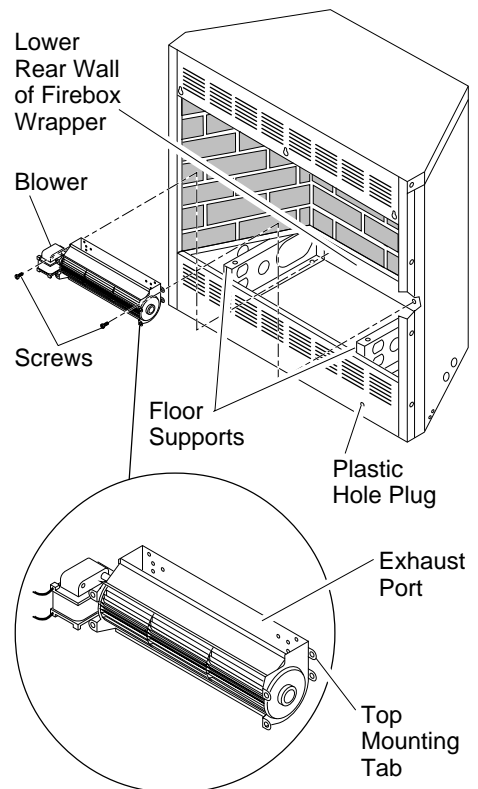

Figure 9 - Mounting Blower to Firebox Bottom
2. Place the blower against lower rear wall of firebox wrapper with the exhaust port directed upward. Align the holes in top mounting tabs of blower with holes in wall of wrapper (see Figure 9). Using 2 screws provided, mount blower and tighten screws securely.
4. Locate the plastic hole plug installed in the 3/8" diameter opening in the lower right side of the firebox front panel (see Figure 9). Remove the plastic plug and discard.